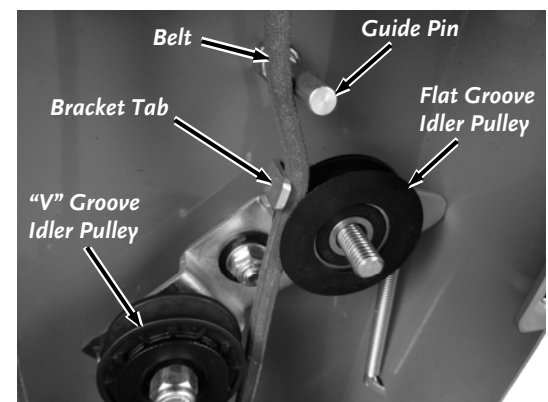

Figure 27
9. Install the small Spacer first, then the Flat Groove Idler Pulley with the Belt in the groove. Make sure you place the Belt correctly between the Idler Pulley, Bracket Tab, and Guide Pin (**Figure 27**).
- The Belt must be installed on the inside of the guide Pin as shown in figure 27. If it is not installed on the inside the Trimmer Head will not function correctly.